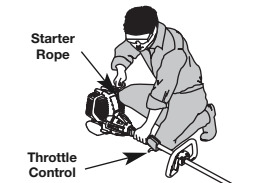

Fig. 10
- With the unit in the starting position, **do not squeeze the throttle control** (Fig. 10). Pull the starter rope out a short distance, until you feel some resistance. This is usually around 2-4 inches. Then pull the rope smoothly and briskly. Repeat this 5 times. The engine should start.
WARNING: Avoid accidental starting. Make sure you are in the starting position when pulling the starter rope (Fig. 10). To avoid serious injury, the operator and unit must be in a stable position while starting. Make sure that any Add-On item is installed correctly and secure before starting the unit.